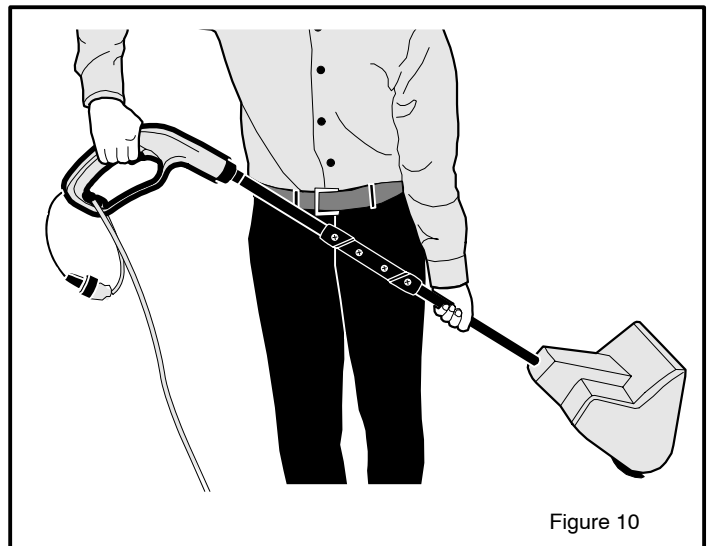

Figure 10
- Grasp handle as shown, and begin to level snowdrift starting at the top and clearing 4" to 7" depending on consistency of the snow. Figure 10.